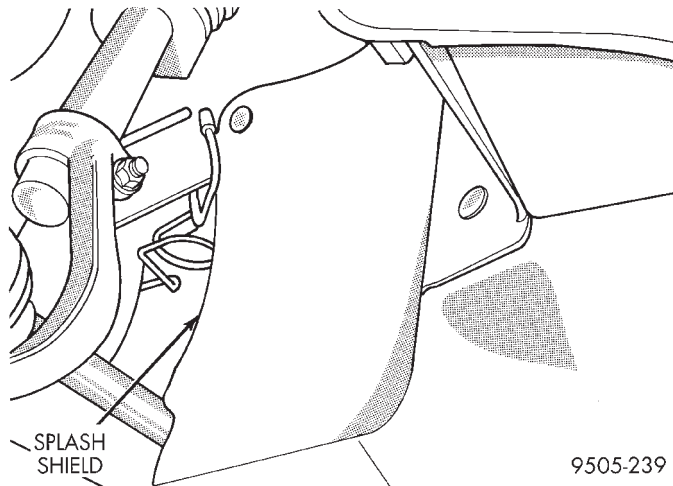

Fig. 35 Accessory Drive Splash Shield
- (1) Remove battery cable from (-) negative post on battery and isolate cable.
- (2) Siphon as much power steering fluid as possible out of the remote power steering fluid reservoir.
- (3) Remove the power steering fluid supply hose from the power steering fluid reservoir. Fluid supply hose will be removed with the power steering pump.
- (4) Raise vehicle.
- (5) Remove right front tire from vehicle.
- (6) Remove accessory drive splash shield (Fig. 35) from the right front wheel well.
- (13) Install accessory drive splash shield in right front inner fender (Fig. 35).
- (14) Install tire back on vehicle. Tighten the wheel lug nuts in proper sequence until all lug nuts are torqued to half specification. Then repeat tightening sequence to full specified torque of 129 N·m (95 ft. lbs.).
- (15) Lower vehicle.